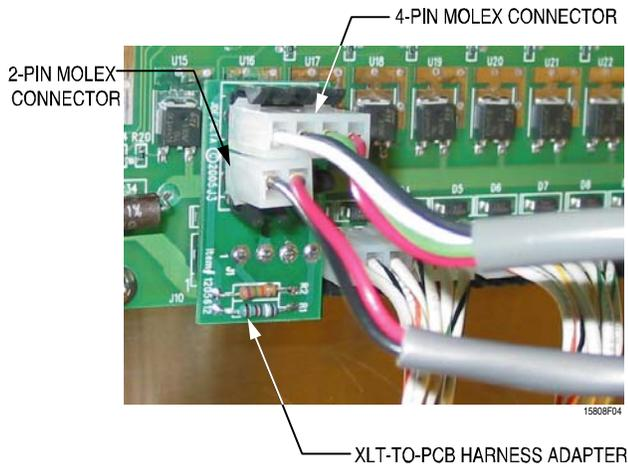

Figure T4. 2 and 4-pin Molex connectors connected to Tunnel Flush Manifold-to-PCB harness adapter, which is connected to J10 on the main dispenser PCB
It is important that the specified groups of wires go to the area on the manifold specified in this instruction. However, polarity of the wires within these parameters is not important. For example, the red and black wires from the 2-wire cable (Figure T4) **MUST** connect to pressure switches, but it doesn't matter which wires connects to which connector.
4. Connect the Tunnel Flush Manifold-to-PCB harness adapter to the J10 position on the Main PCB labeled **Manifold**. See Figure T4 for position.